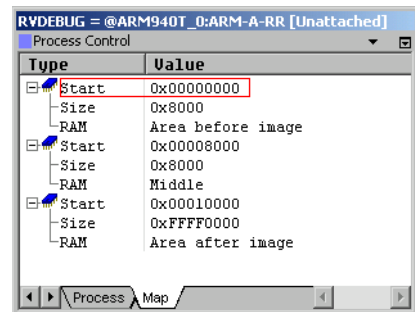

Figure 5-2 Memory mapped
10. Click **OK** to confirm your changes and update the Process Control **Map** tab, shown in Figure 5-2.